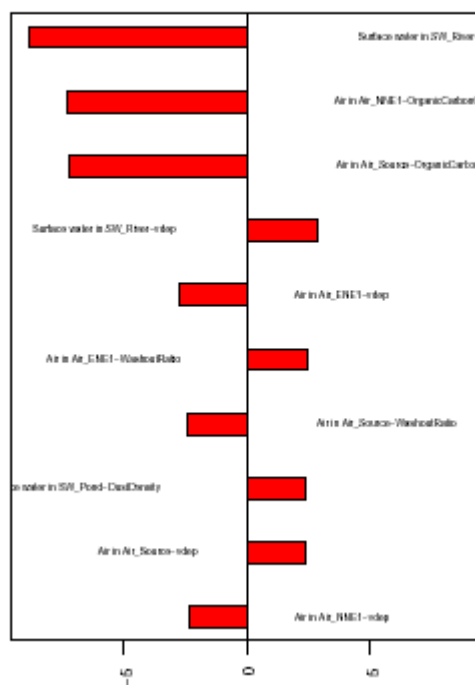

Figure 12. An Example Tornado Plot for Sensitivity Analysis
7. To add a title to the plot, click on the **Edit** button next to **Plot Title**. Then type a title into the text area labeled **Text:** (e.g., Sensitivity Score for the Mass of Methyl Mercury). Note that there are many adjustments that can be made to the look of the title, including the style, color, font size, and position. After you click **OK**, click **View Plot** again to see the plot with the title. It should look similar to the plot in Figure 12.